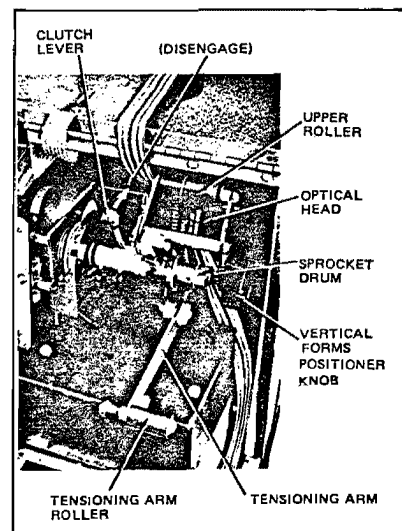

Figure 2
- c. Lift Tensioning Arm (figure 2) to its fully raised position.